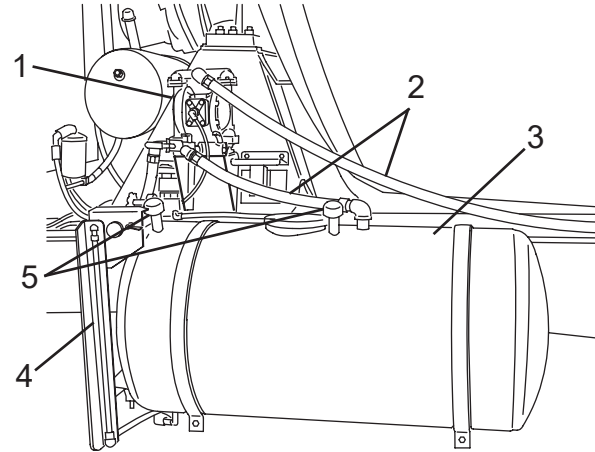

Figure 147
1. Inspect the water tank(s) (Figure 147, Item 3) for leaks, cracks, breaks, or structural damage.
2. Inspect hoses (Figure 147, Item 2) for leaks, cracks, or damage.
3. Inspect sight glass(es) (Figure 147, Item 4) for cracks or damage.
4. Check pump (Figure 147, Item 1) (if equipped) for proper operation.
5. Check breathers (Figure 147, Item 5) (if equipped) to make sure they are free of debris.